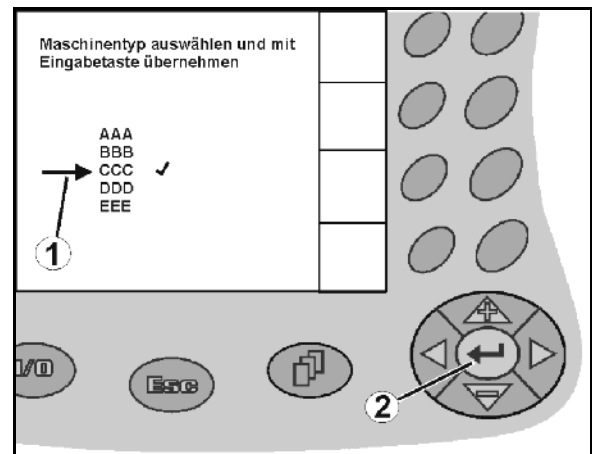

Fig. 16
1. Position selection (Fig. 16/1) using  and .
(Fig. 16/2).